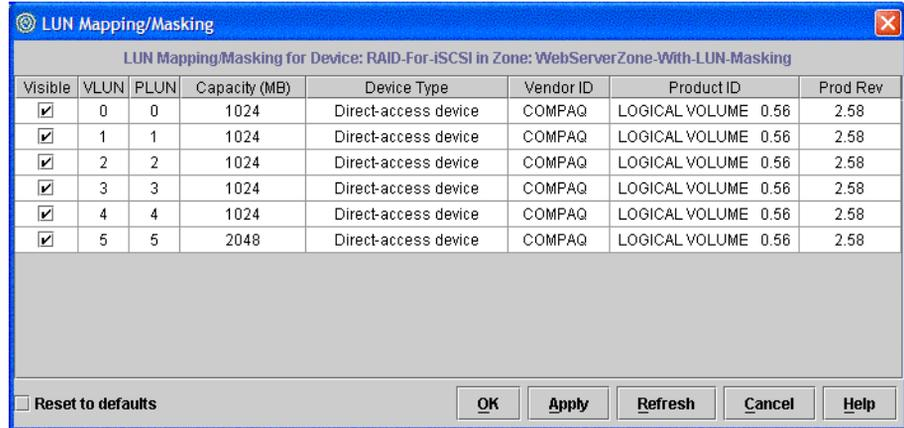

Figure 5-10 LUN Mapping/Masking Dialog Box
4. Right-click the FC target in the Router Zones section and launch the *LUN Mapping/Masking* dialog box (Figure 5-10 on page 5-22). By default, all LUNs are selected (visible).